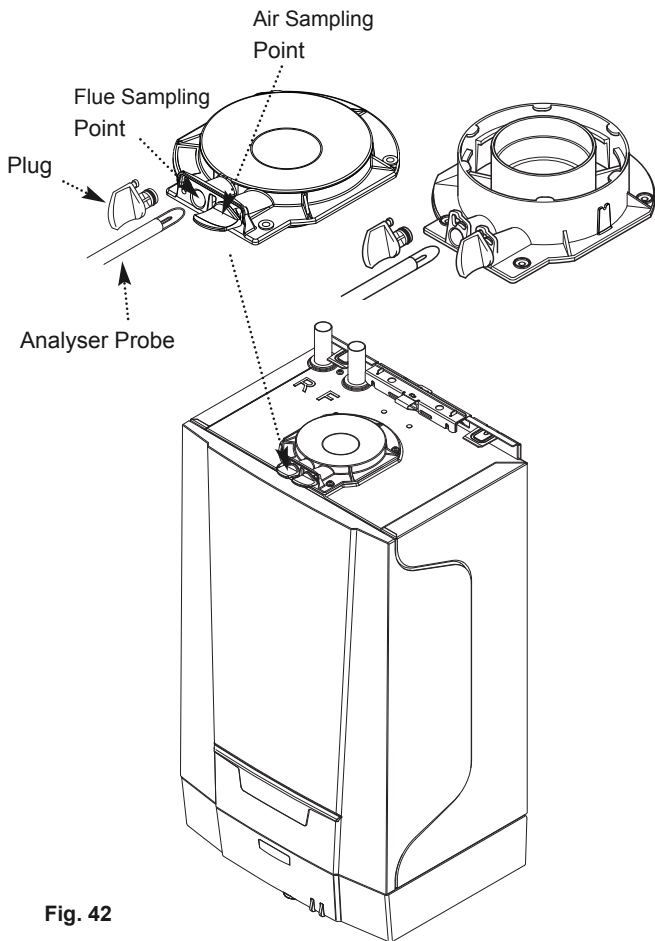

Fig. 42
5. Remove the plug from the flue sampling point (Fig. 42), insert the analyser probe and obtain the CO/CO2 ratio. **This must be less than 0.004.** If the combustion reading (CO/CO2 ratio) is greater than this, and the integrity of the complete flue system and combustion circuit seals has been verified, and the inlet gas pressure and gas rate are satisfactory either:-